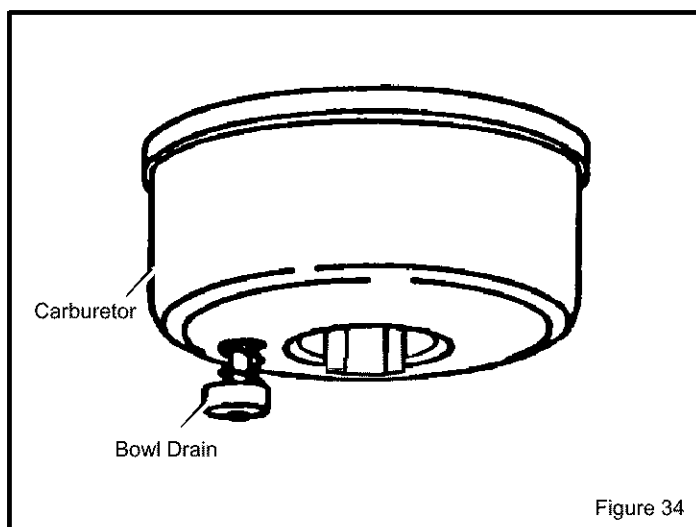

Figure 34
1. To remove gasoline, run engine until tank is empty and engine stops. Then drain remaining gasoline from carburetor by pressing upward on bowl drain located on the bottom of carburetor (see Figure 34).